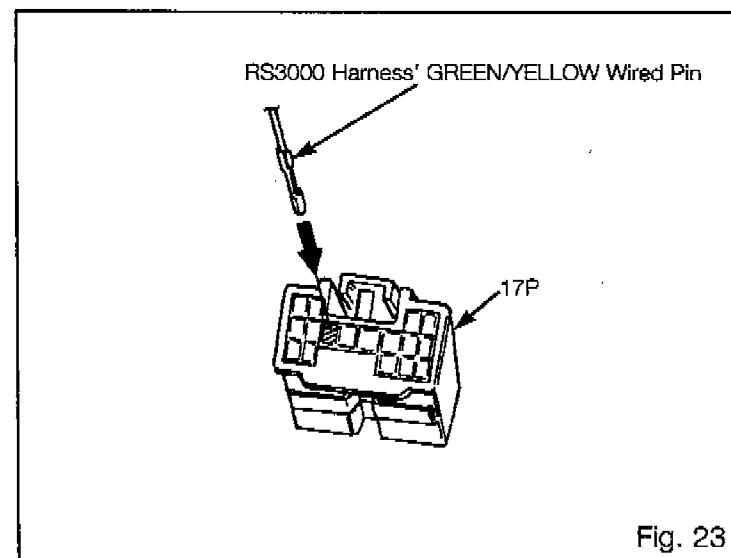

Fig. 23
- (5) A) Turn the connector so the tab is on top and the wires are facing you.
- B) Locate the open pin slot in the middle row, third space from the left. Insert the RS3000 harness' GREEN/YELLOW wired pin for Tailgate Window Down Detection; be sure to confirm proper alignment before inserting the pin. Fig 23